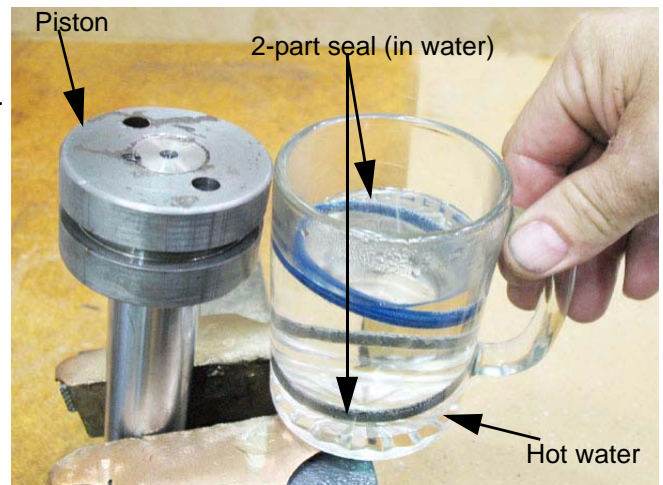

Figure 5.23
3.19. Warm-up the new two-part piston seal set in hot water. See Figure 5.23.